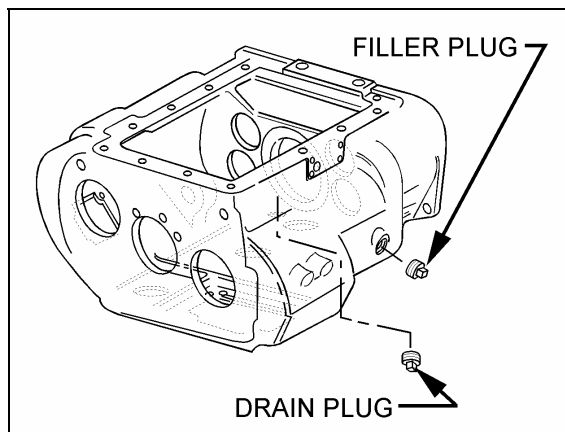

FIGURE 6: DRAIN AND FILLER PLUGS
1. Unscrew the drain plug (Fig. 6) and allow the oil to drain into a suitable container.
1. Remove filler plug (Fig. 6).